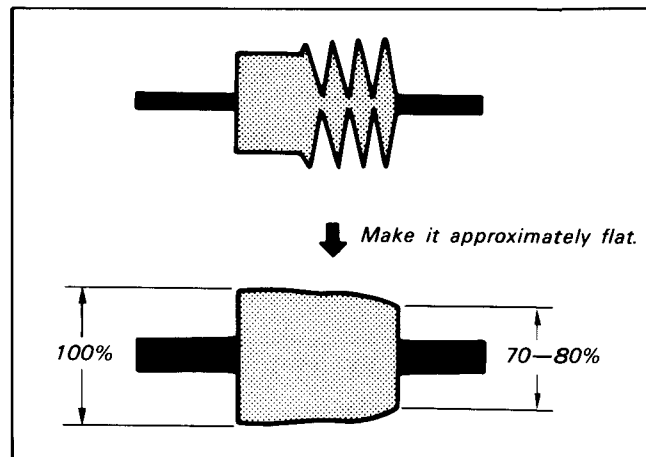

Fig. 8-80.
- 3) Rotate No.5 guide counterclockwise to make the RF waveform on the exit side approximately flat. (Fig. 8-80)